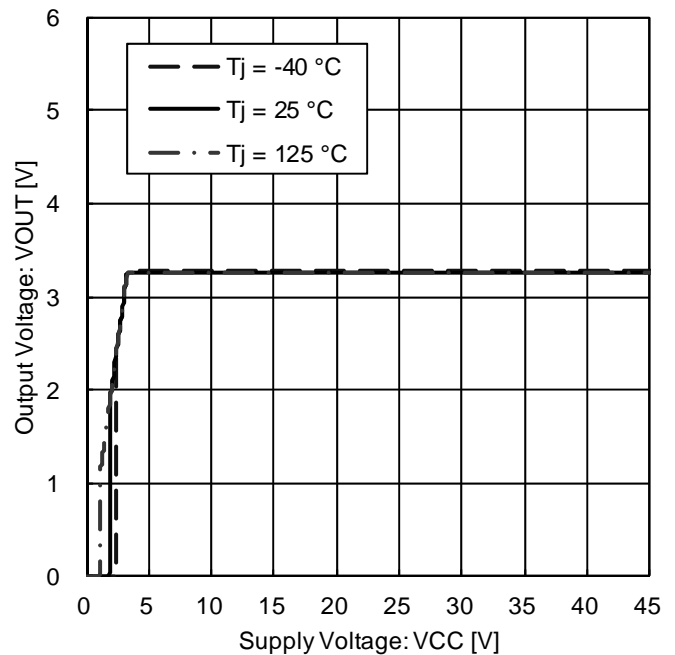

Figure 6. Output Voltage vs. Power Supply Voltage ($I_{OUT} = 0\text{ mA}$)
* Magnified Figure 6. at Low Supply Voltage